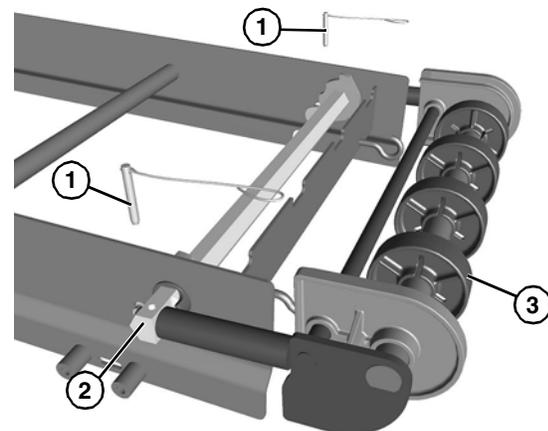

Figure 63
1. Remove the pull pins (**Figure 63, item 1**) from tip up hex shaft assembly (**Figure 63, item 2**).
2. Slide the idler tail assembly (**Figure 63, item 3**) out of the tip up hex shaft assembly.